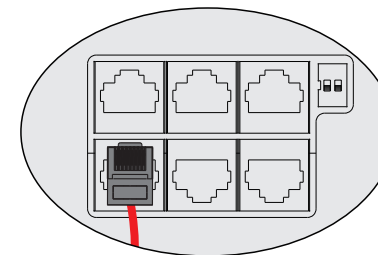

Figure 4.8-4 RJ45 interface
**Step 4.** Connect RJ45 terminal to the right position onto the inverter.See Figure 4.8-4